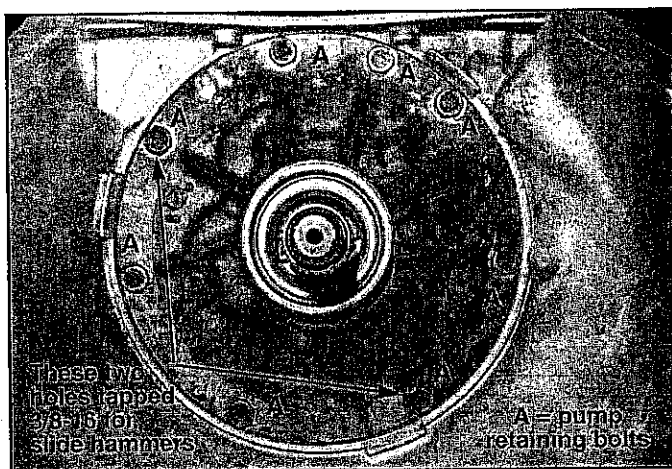

FIGURE 7
STEP 13. Remove eight pump retaining bolts. (See Fig. 7) The two bolt holes at the 5 and 10 o'clock positions are tapped for